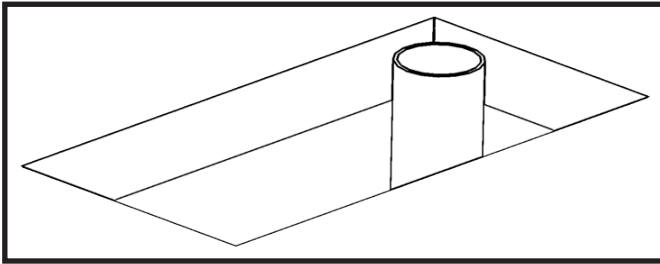

FIGURE 2
7. The drain will sit approximately 1/2" to 1-1/2" below the finished floor. Determine the location of the drain pipe by taking measurements of the drain and waste location underneath the bathtub. The size of the floor cutout must allow for the entire drain to clear. See Figure 2.